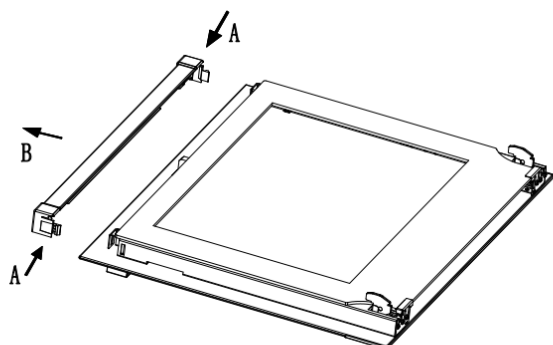

Fig. 3
1. Press the button on left and right side of door, take out top rail. (Fig.3)